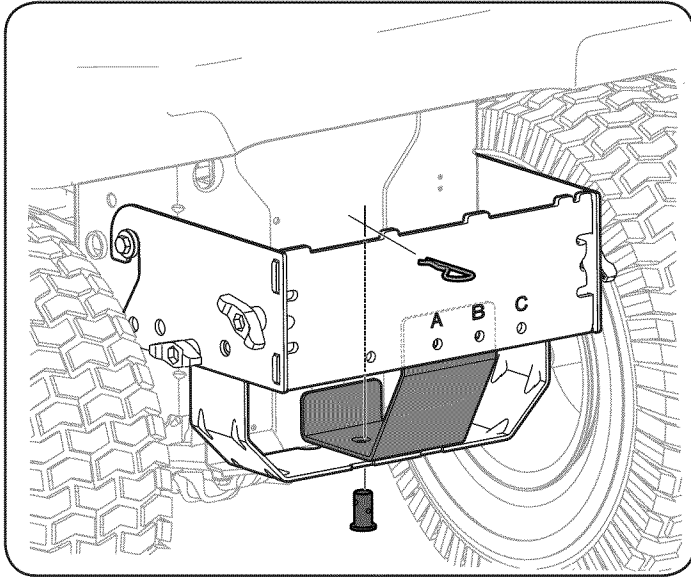

Figure 4
2. Install the bagger support bracket, included with the loose parts, into the mounting assembly as shown in Figure 4. Line the holes up as shown.
3. Install the clevis pin (711-0309A) from hardware pack 689-00328A into the tractor's hitch, the bagger support bracket, and the mounting assembly and secure with a hairpin clip (714-0117). See Figure 4.